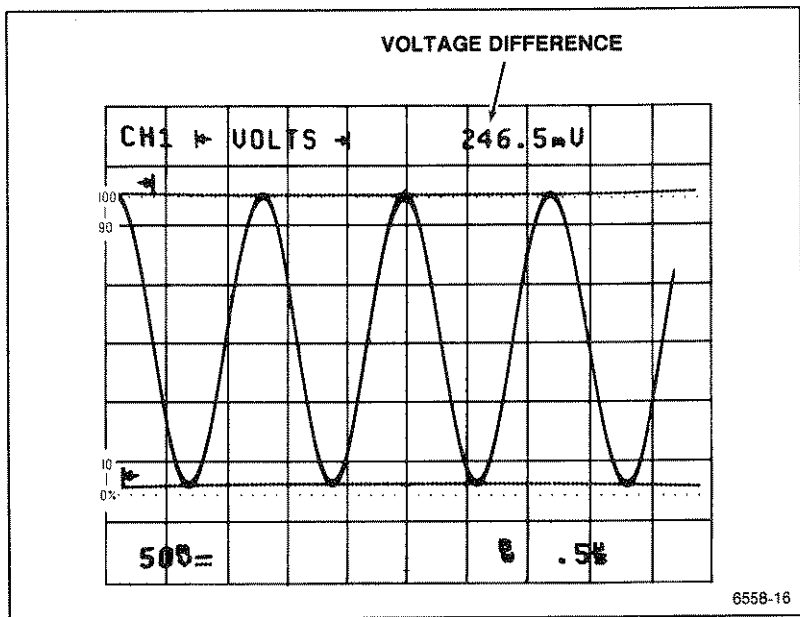

Figure 5-1. Voltage difference measurement using cursors.
- Press the CURSOR VOLTS button to display the voltage cursors. The voltage cursors are initialized to the peak-to-peak voltage levels of CH 1. (See Figure 5-1).